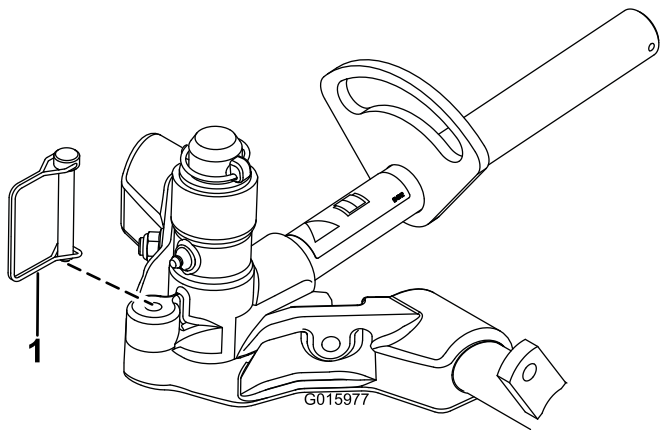

Figure 17
- To lock (fix) the steering on the cutting units, secure the pivot yoke to the carrier frame with the snapper pin (Figure 17).